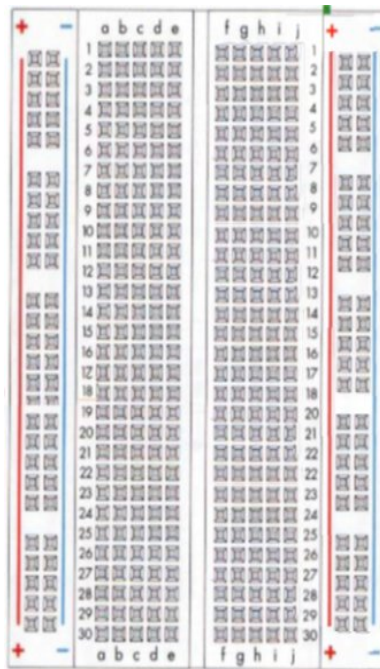
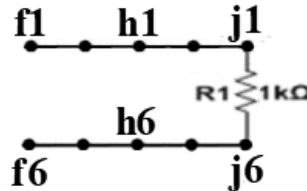

Figure 1.2 400 Tie-Point (top) and 730 Tie-Point (bottom) Solderless Breadboards
Figure 1.3 One Resistor Circuit Schematic with Breadboard Tie-Points Indicated
Each student will use solderless breadboards on which to assemble the hands-on labs during the semester without needing to remove and re-wire your circuits every week. There are several sizes of solderless breadboards typically used. As shown in Figure 1.2 we will be using a 400 Tie-Point version.
Gently bend the leads of the  $1\text{K}\Omega$  resistor you just measured the resistance of close to the device's body to form a "U" and insert the resistor ( $R_1$ ) into the breadboard's connection points **J1** and **J6** with four (4) empty rows (2, 3, 4, and 5) between the two leads (see Figure 1.2 - *YOUR breadboard might actually have "A" as the right, top most tie-point.*). The tie-points **F1**, **G1**, **H1**, and **I1** in that row are all connected to **J1**, similarly, tie-points **F6**, **G6**, **H6**, and **I6** are all connected to **J6** – each of those other tie-points are usable for other connections. This results in the schematic and pin locations of Figure 1.3.